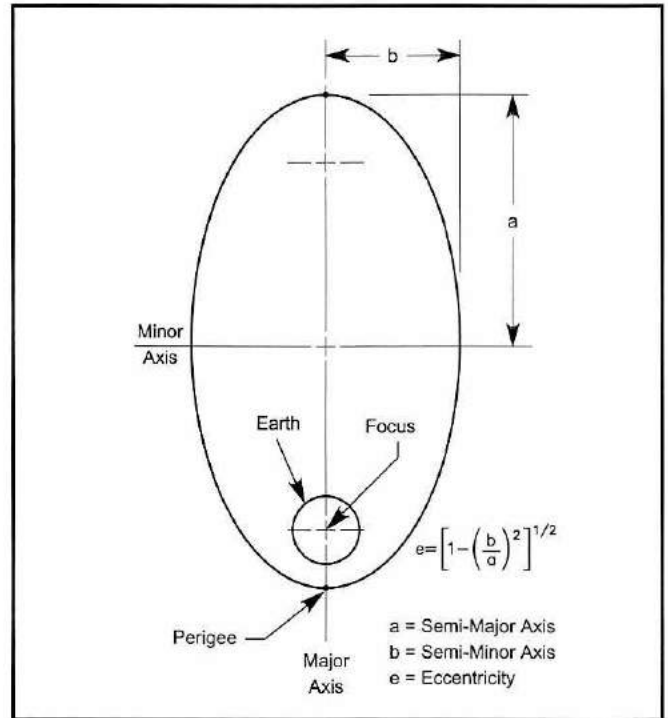

Fig 2-30—Eccentricity and semi-major axis.
tical, but is either parabolic or hyperbolic and is no longer a closed, or periodic, orbit. See Fig 2-30.
**Semi-Major Axis, SMA,  $A\emptyset$  (kilometers):** The SMA is a dimensional measurement of one half of the total "length" of the longest axis of an ellipse. In Earth orbits, if the  $N\emptyset$  is stated, the use of the SMA is not necessary as they are numerically related in a very direct manner. Most programs will accept either  $N\emptyset$  or SMA as input but only use one or the other. The SMA is commonly not stated in lists of Keplerian elements for OSCAR satellites. See Fig 2-30.